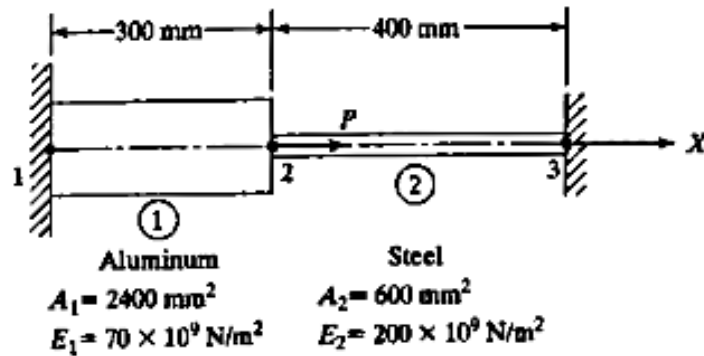

Figure 4
- b) Consider the bar shown in fig 4. An axial load of 200 kN is applied as shown in figure. (a) Determine nodal displacement **10**